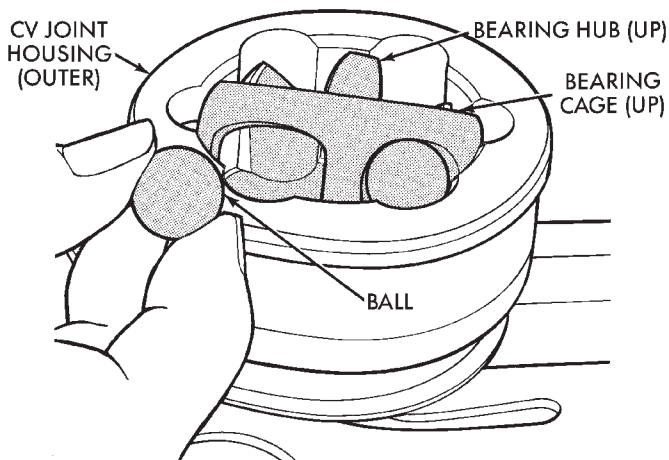

Fig. 19 Ball Installation In Raceway
(6) Tilt the bearing hub and cage and install the balls in the raceways (Fig. 19).